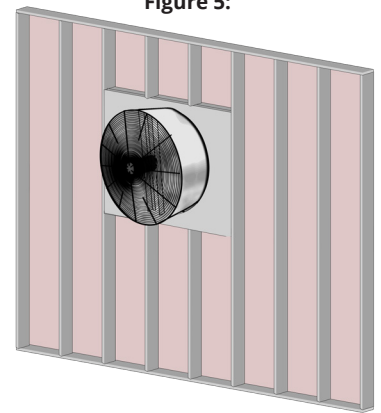

Figure 5:
8. Use shims as needed to center unit in cut outs. (Fig. 5)